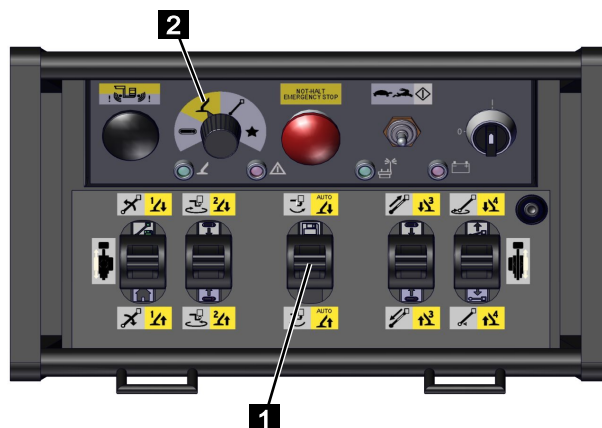

Fig. 132
4. Set the function selector on the radio control to [bracing function] (yellow) (Fig.132/2).
5. Use the control lever (Fig.132/1) to operate the outriggers as per the following table.